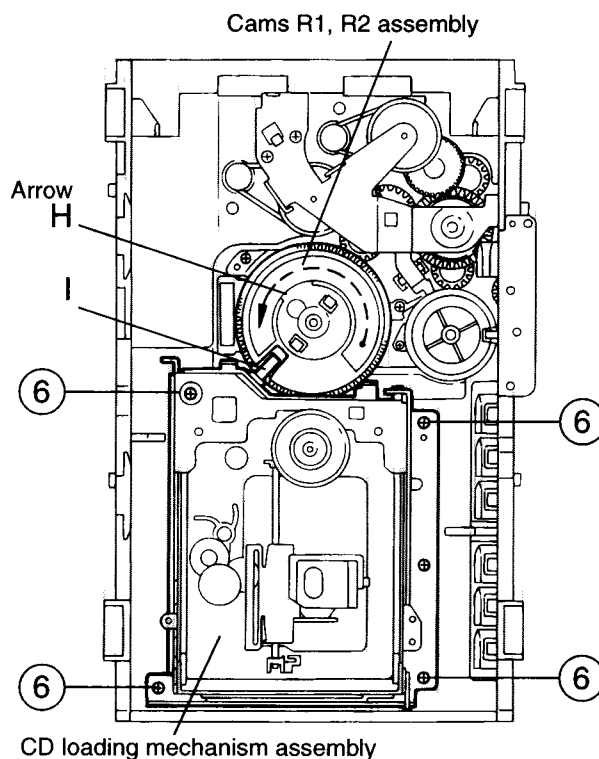

Fig.10
■ Removing the CD loading mechanism assembly (See Fig.10)
1. While turning the cams R1 and R2 assembly in the arrow direction "H", align the shaft "I" of the CD loading mechanism assembly to the position shown in 2. Fig.10.
2. Fig.10.